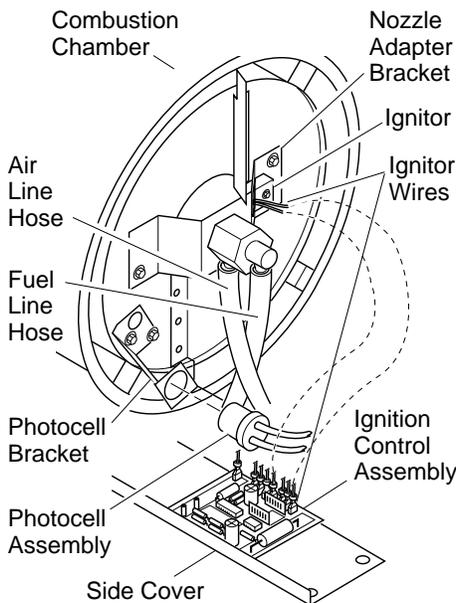

Figure 9 - Disconnecting Ignitor Wires from Ignition Control Assembly (see Wiring Diagram, Figure 18 or 19 appropriately, page 10)
4. Disconnect ignitor wires (gray) from ignition control assembly (see Figure 9). Pull the ignitor wires up through the hole in the lower shell.
5. Disconnect fuel line hose and air line hose. Remove photocell from photocell bracket (see Figure 9).
13. Connect and route fuel line hose and air line hose to nozzle adapter (see Figure 9).